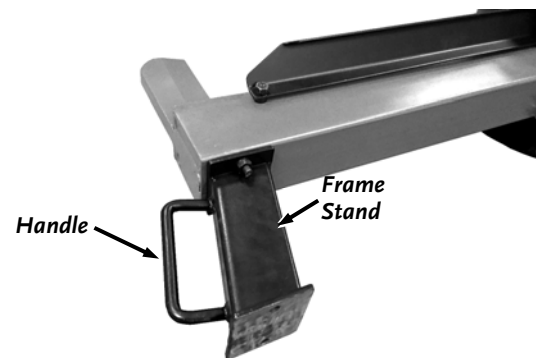

Figure 3
2. Remove the Frame Stand and rotate it 180 degrees. Reinstall it with the handle on the outside using the Nuts and Lock Washers removed in step 1 (**Figure 3**).